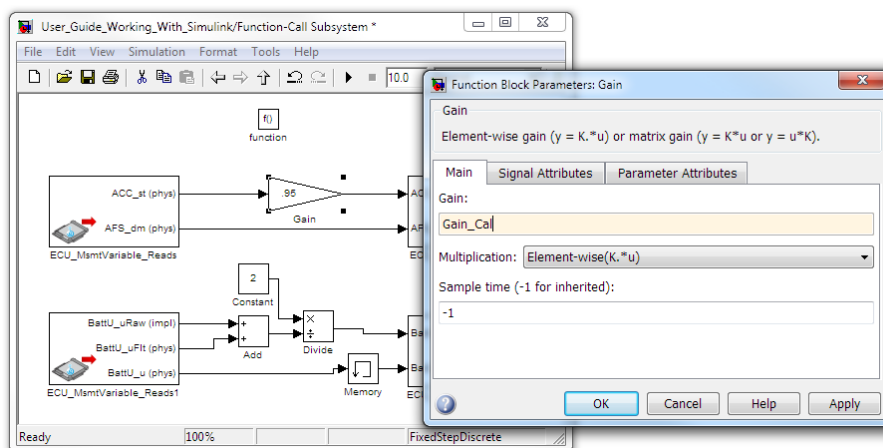

Figure 10.41: Configuring the Gain Block
- Within the gain parameter, enter the name of the new calibration parameter to be created, as shown in figure 10.41.